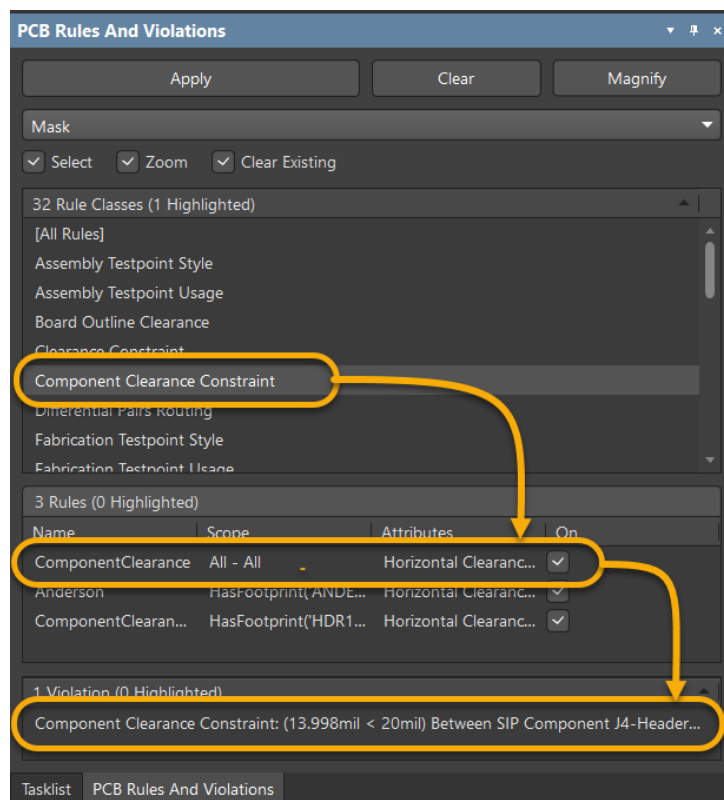

Figure 17. Component Clearance rule class
39. Back in the PCB, select the **Component Clearance Constraint** rule class from the *Rule Class* section, to view its 3 rules and the Component Clearance Violation <20mil as shown in Figure 17.